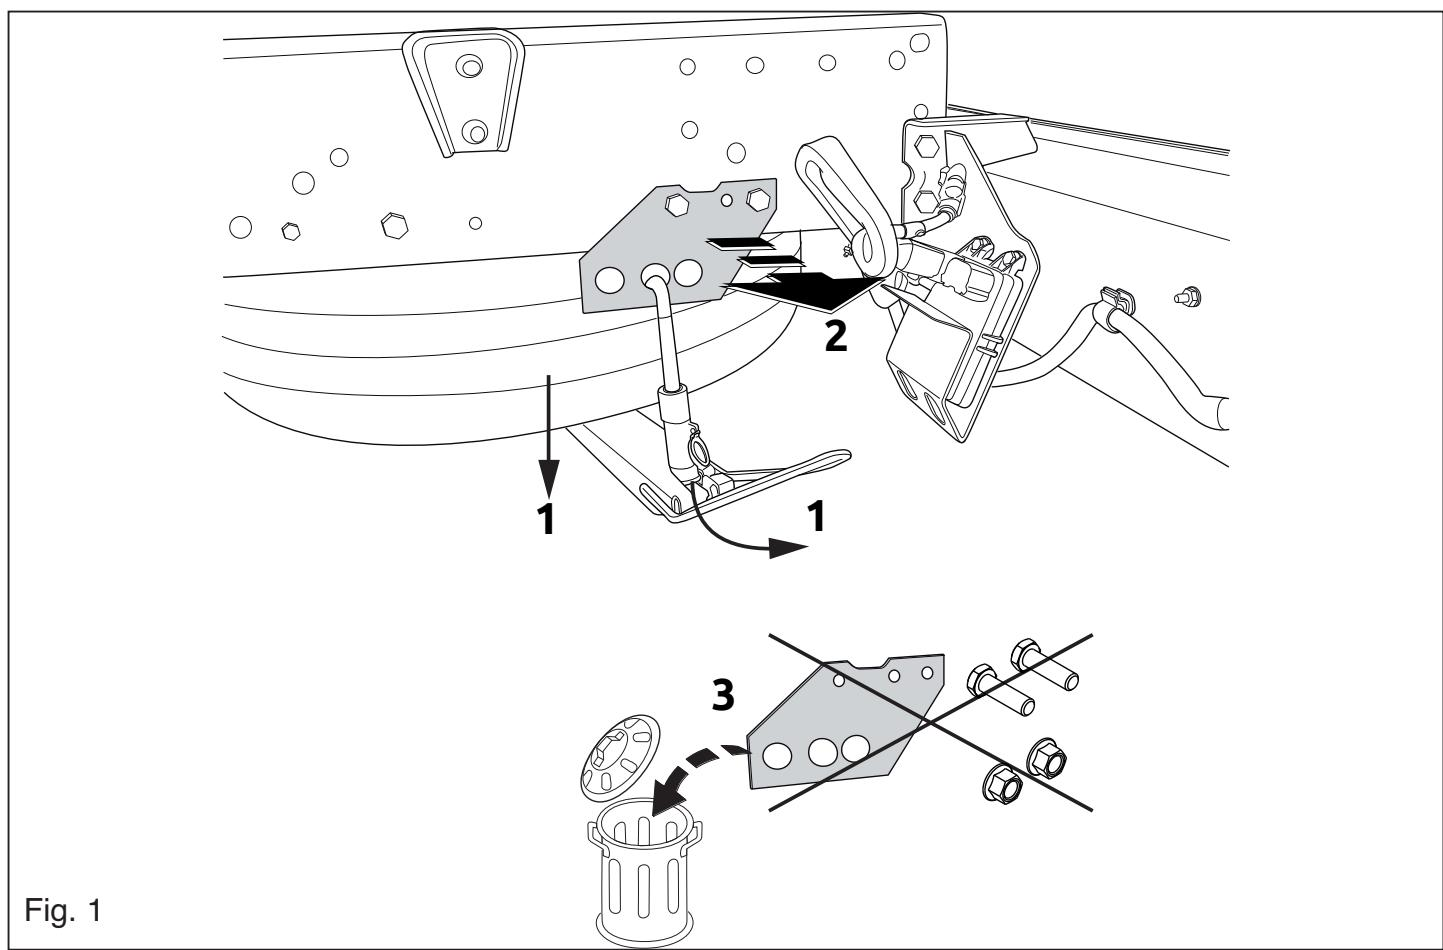

Fig. 1
- Please note: if present:** Lower the spare wheel. Remove the part called See figure 1. Position the supports A and B on the outside of the chassis and the them at points C, then fit the whole thing without fully tightening them at points D and E on the outside of the chassis and the them at points F, then fit the whole thing without fully tightening them at points G between supports A and D at points H and I. Fit the cross beam G so that they are in line with the chassis members. Position these supports D and E on the outside of the chassis and the them at points F, then fit the whole thing without fully tightening them at points G between supports A and D at points H and I. Fit the whole thing See figure 2. Fit the socket plate at points J. Tighten all nuts and bolts to the torque indicated in the drawing. Return the spare wheel to its original position.
- Achtung, wenn vorhanden:** Das Ersatzrad herunter lassen. Den angegebenen Teil abmontieren. Siehe Abbildung 1
- Attention, si présent :** Abaisser la roue de secours. Démonter la partie indiquée. Voir la figure 1.